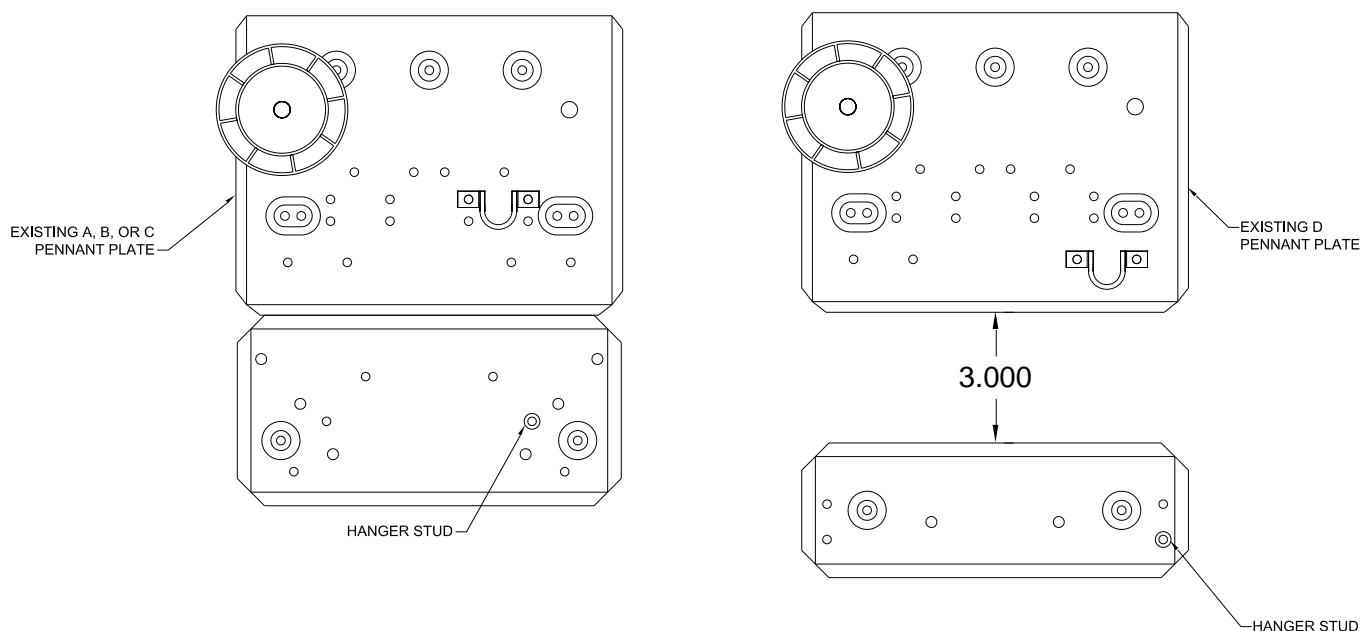

Fig. 1
1. Determine what size pennant plate is installed. If the existing plate is an A, B, or C; place the drip pan pennant plate flush up against the existing pennant plate as shown in Fig. 1. Making sure the hanger stud is placed on the same side of the U-Bracket as shown. For D size pennant plates the drip pan plate will need to be mounted 3" below the pennant plate as shown in Fig 1.